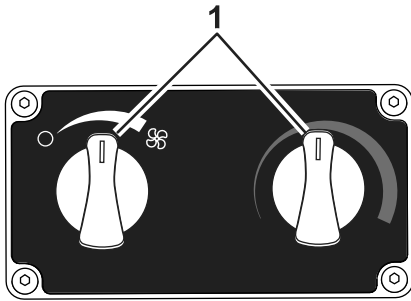

Figure 6
6. Move the control knobs to the middle position as shown in Figure 6.